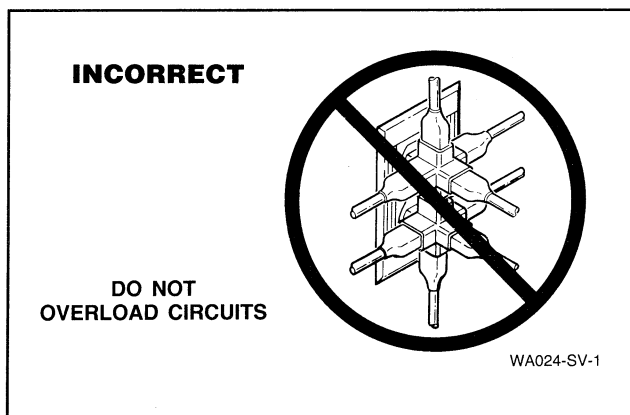

Figure 51
- Do not operate other appliances on the same circuit. Do not overload circuits!** See *Figure 51*.